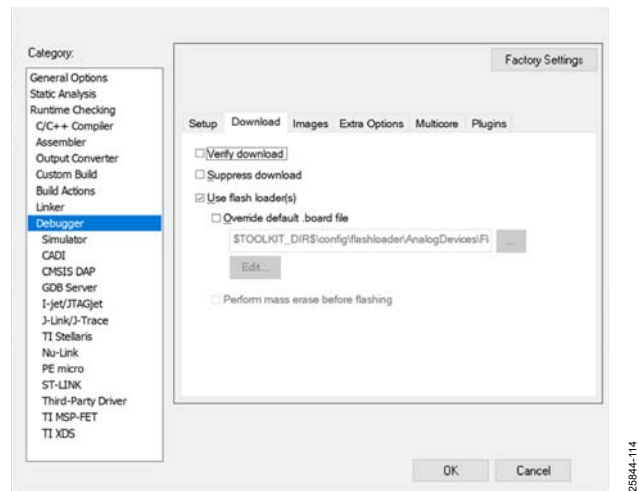
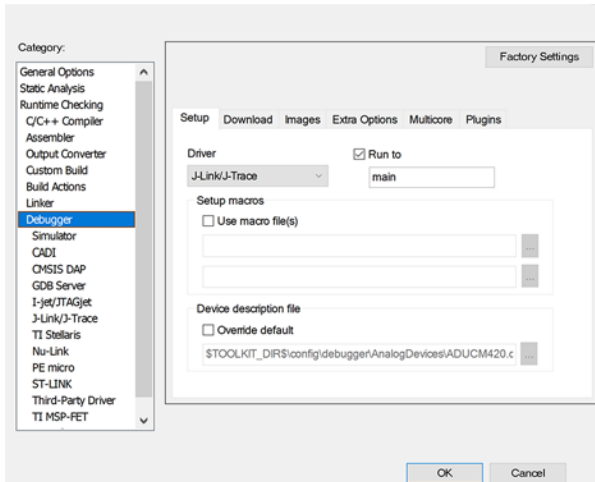

Figure 15. Debugger Configuration
Figure 16. J-Link/J-Trace Selected in Setup Tab
- Check the **Debugger** settings, and ensure that all settings match those shown in Figure 15 and Figure 16 in the **Download** and **Setup** tabs.